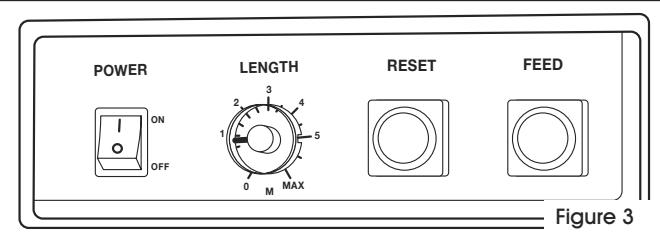

Figure 3
- Set strap feed length: Determine the length of strap needed. Set control for 0-6. Lengths listed in meters. 1 = 3 ft. of strap. Example: for 6 ft. of strapping, set the control at "2". (See Figure 3)
- Turn power ON. Allow machine to heat up 3-4 minutes. Strap won't seal if heating blade is not hot enough. (See Figure 3)
- Pre-feed the strap: Press and hold the FEED button until the desired length of strap feeds out. (See Figure 3)
Strap jams while cutting and sealing.	<p>Check if strap can be pulled out of the right side door. (See Figure 1)</p> <ol style="list-style-type: none"> <li>1. Turn power OFF and open top cover. Check if strap is jammed between press bar and front bar. (See Figure 2)</li> <li>2. If strap is jammed between press bar and front bar:           <ol style="list-style-type: none"> <li>a. Slide LS1 plate towards rear of machine until the plate and separator come off.</li> <li>b. Lift heater off the two screws.</li> <li>c. Lift springs from press bar, front bar and rear bar post. Lift out bars.</li> <li>d. Wipe down bars and square holes.</li> <li>e. Lubricate bars with light lubrication, such as WD-40®, and reinsert bars.</li> <li>f. Reattach springs to post. Put heater, LS1 plate and separator back on, ensuring LS1 arm is put in separator slot.</li> <li>g. Ensure the groove on the bottom right side of the LS1 plate is positioned so the tip of the front bar goes into the groove when it is raised up. (See Figure 3)</li> </ol> </li> </ol>